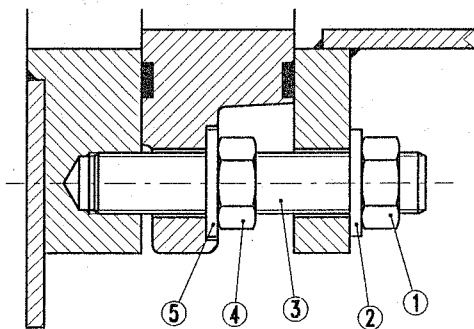

FIG.2
- 3- Remove for each valve the 4 nut and screws pos 1 and pos 2 (ref to fig. 2)